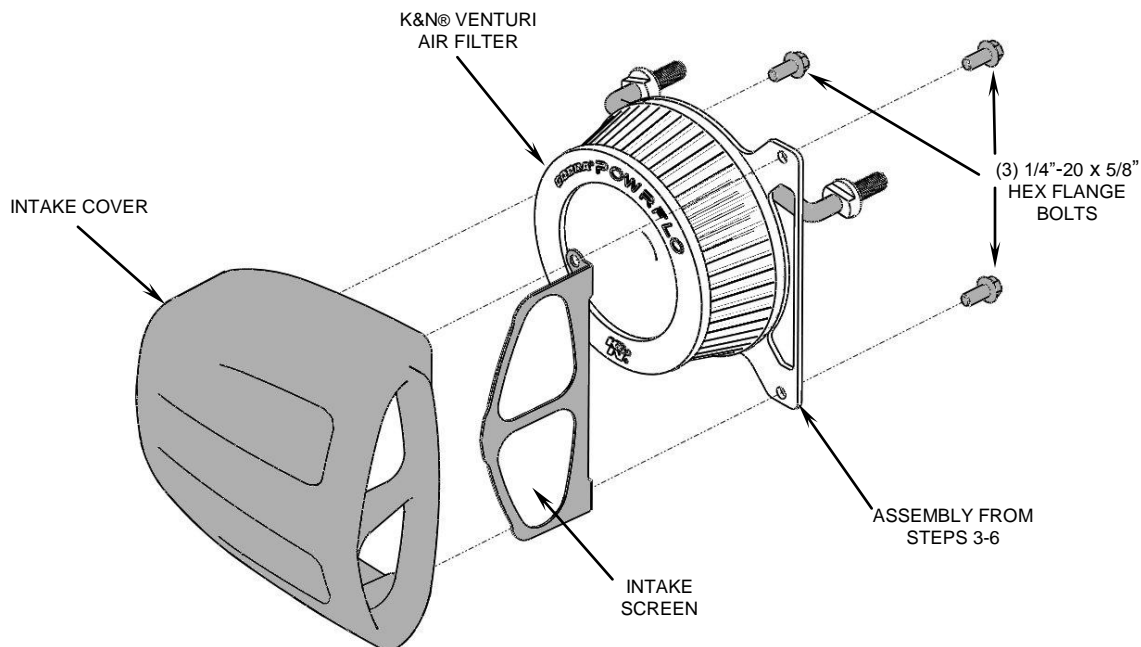

FIGURE 2
4. Join together the assembly from Step 3 with the supplied gasket then start threading the (3) buttonhead bolts into the throttle body, but do not tighten.
5. Insert the breather bolts into the cylinder heads and full tighten. Now snug the (3) buttonhead bolts evenly, and then fully tighten them to the throttle body.
8. Place the intake cover over the air filter and align threaded bosses with the mounting plate holes. Insert the (3) supplied 1/4"-20 x 5/8" hex flange bolts through the mounting plate, intake screen and into the intake cover then tighten. See Figure 2.